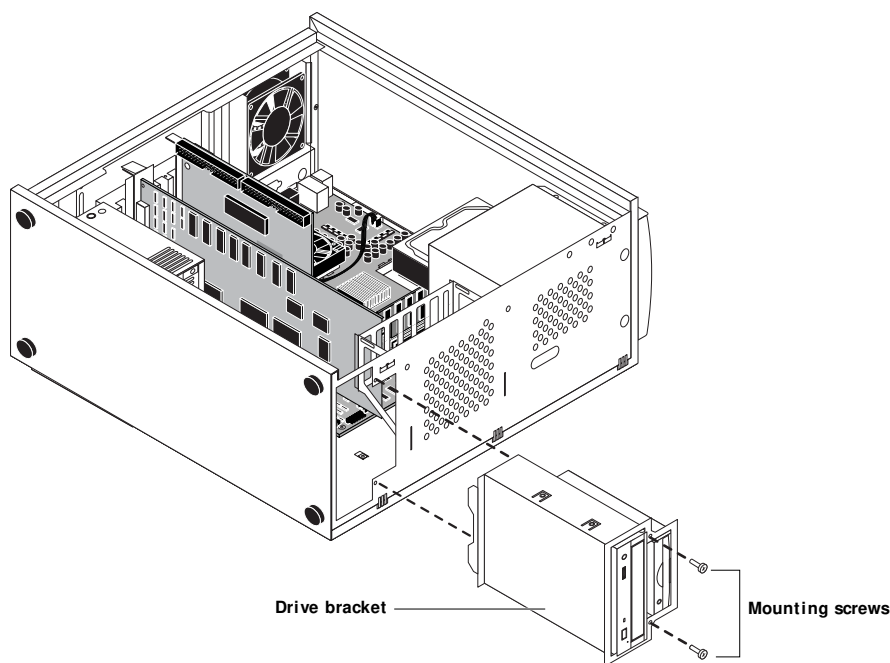

FIGURE 4-32 Removing/replacing the drive bracket
4. Remove the two screws on the front of the chassis (see Figure 4-32). These screws secure the bracket to the chassis.
4. Replace the two screws on the front of the chassis that secure the drive bracket to the chassis (see Figure 4-32 on page 4-63).